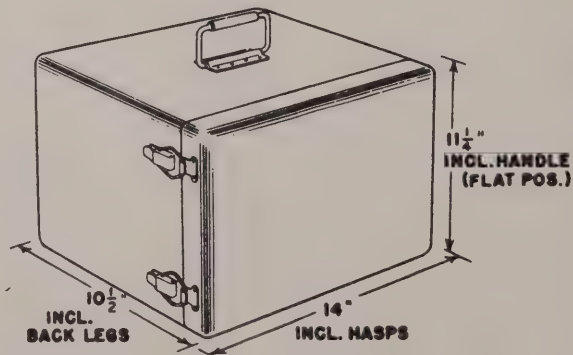

Figure 3-2. RF Signal Generator Set AN/URM-25D Outline Dimension Drawing
(1) Antenna Simulator SM-35/URM-25, (5:1) Fixed Attenuator CN-223/URM-25D, (10:1) Fixed Attenuator CN-224/URM-25D, Impedance Adapter MX-1487/URM-25D, Test Lead CX-1363/U, Coaxial Adapter UG-201A/U (P801), and instruction book will be found on the inside of the panel cover. An aluminum plate with ferrule clips is provided for mounting these units.
(2) Output cables W104, W105, W106 are also mounted on this aluminum plate.
c. Dimensions of the signal generator are shown in Figure 3-2.